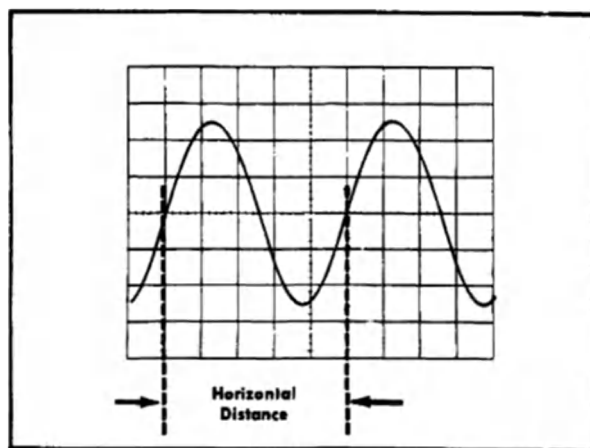

Fig. 2-12. Measuring time duration between points on a waveform.
5. Set the TIME/DIV switch to the fastest sweep rate that displays less than eight divisions between the time measurement points (see Fig. 2-12). See Selecting Sweep Rate in this section concerning nonlinearity of first and last division of display.
Example. As an example of this method of measurement, assume that the distance between the time measurement points is five divisions (see Fig. 2-12) and the TIME/DIV switch is set to .1 mSEC with the magnifier off. Using the formula:
Example. As an example of this method of measurement, the frequency of the signal shown in Fig. 2-12 having a time duration of 0.5 millisecond is: